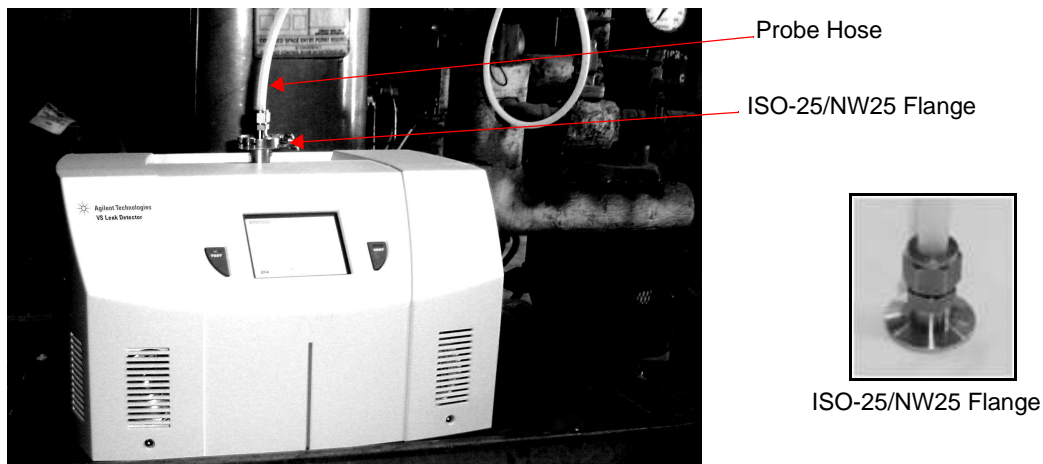

Figure 2 Connection To The Leak Detector
2. Connect the probe assembly to the leak detector inlet via a standard ISO-25 flange (also known as NW25) with the temperature resistant hose (Figure 2).